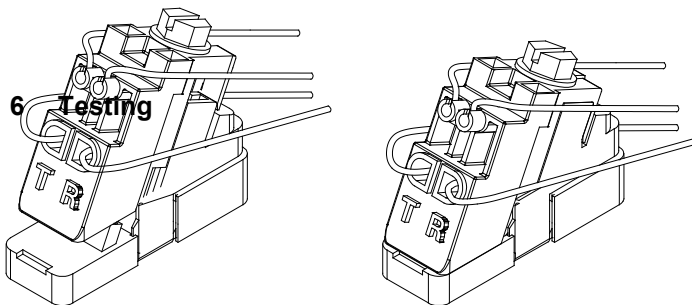

Figure 4
4.3 Lower Port Telco Connections (see Figure 4)